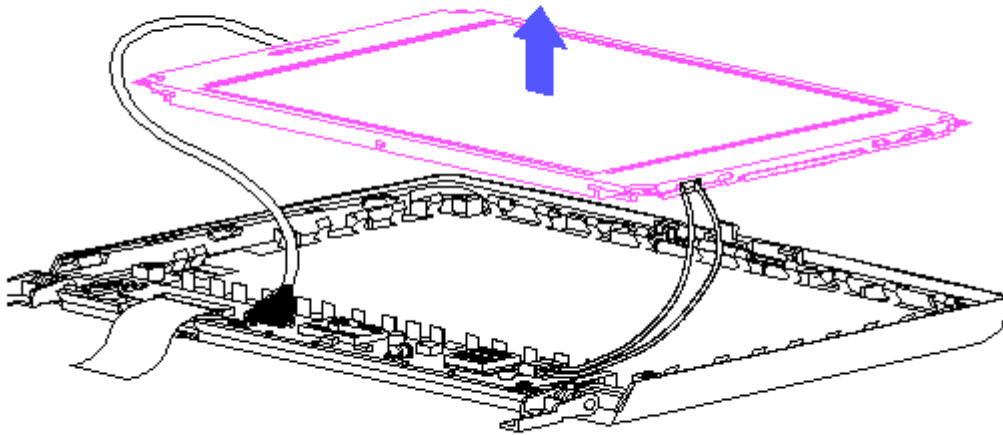

Figure 2-20. Removing the LCD Panel
3. Rotate the LCD panel out of the display enclosure (Figure 2-20).